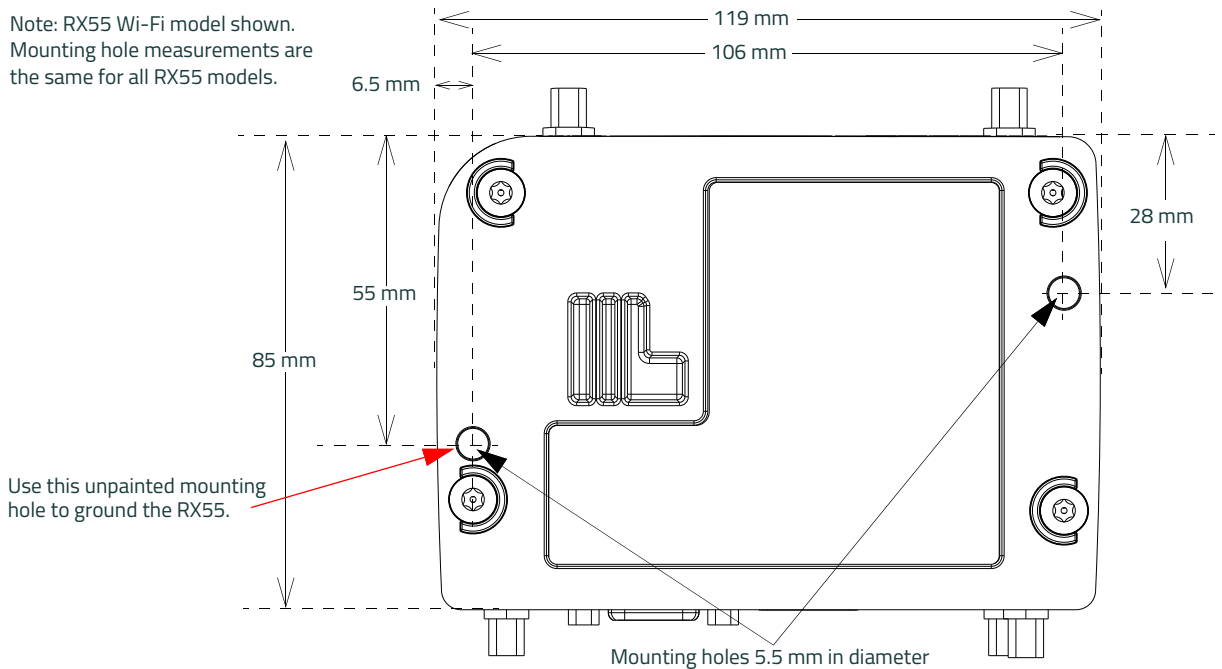

Figure 2-2: RX55 Router Mounting Hole Locations and Dimensions
Note: When mounting the router in a location that could be exposed to rain (such as in a vehicle door panel, which would expose the router when the door is opened), mount the router vertically with the power connector and ports facing down, as shown in Figure 2-2. The router meets its IP64 rating when mounted in this orientation.
- Connect one end of a short 18 AWG or larger gauge wire to the unpainted upper left mounting hole (see Figure 2-2) and connect the other end to the system ground reference or (if mounted in a vehicle) the vehicle chassis.